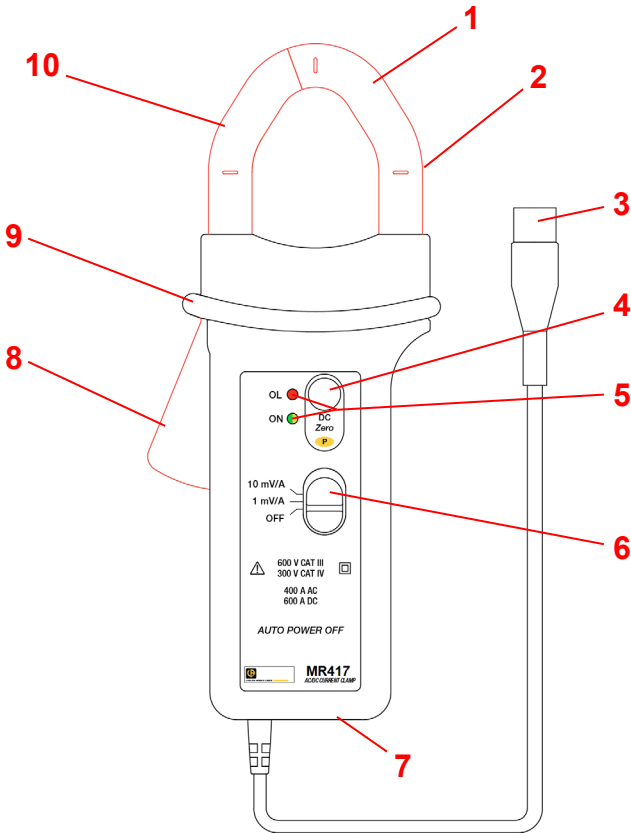

Figure 1 (MR417)
2. Clamp the jaws around the conductor to be measured. Use the centering marks on the jaws to position the clamp around the conductor. If the measurement is to be used in a power calculation, ensure the arrow on the clamp jaws (see Figures 1 and 2) points in the direction of the current flow: source  $\Rightarrow$  load.